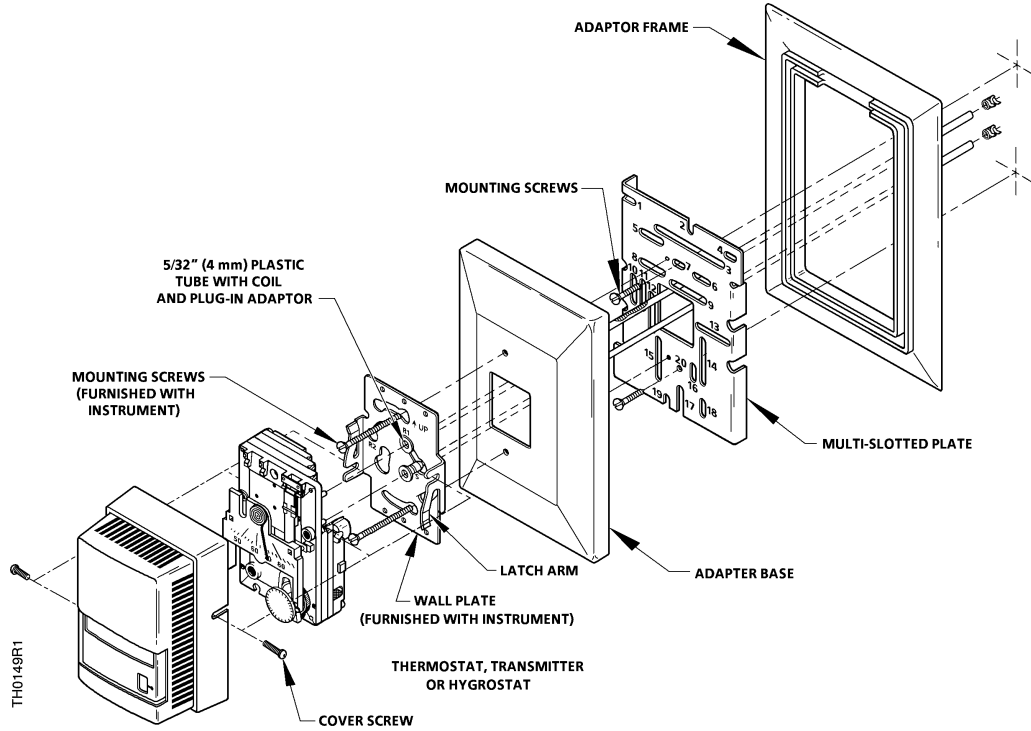

Figure 2. Thermostat Mounting with Universal Kit – Option 1.
The following general procedure applies for all thermostat installations. Notice that some installations will require the use of the adapter frame to cover up paint lines, broken walls, spots, etc. For installations not covered in this bulletin, remove the old terminal and connect directly to the tubing. See Figures 2, 3 and 4.
*Items not shown. See Figure 2 for proper installation.
- F. (4) Tube Retainer
- G. (2) 5/32-inch (4 mm) Plastic Tube (Soft) and Coil
- J. (2) No. 6-32-inch x 1-inch Long Binder Head Screw
- *P. (2) Plug-in Adapter
- *Items not shown. See Figure 2 for proper installation.
- J. (2) No. 6-32 x 1-inch Binder Head Screw
- F. (2) Tube Retainer
- J. (2) No. 6-32 x 5/8-inch Binder Head Screw
- G. (2) 5/32-inch (4 mm) Plastic Tube (Polyethylene- Hard) and Coil
- B. (2) Terminal Fitting
- C. (2) Holder
- D. (2) Gasket
- E. (2) No. 6-32 x 9/16-inch Flat-head Screw
- J. (2) No. 10 Sheet 6 -32 x 1-1/2 inch Pan Head Screws